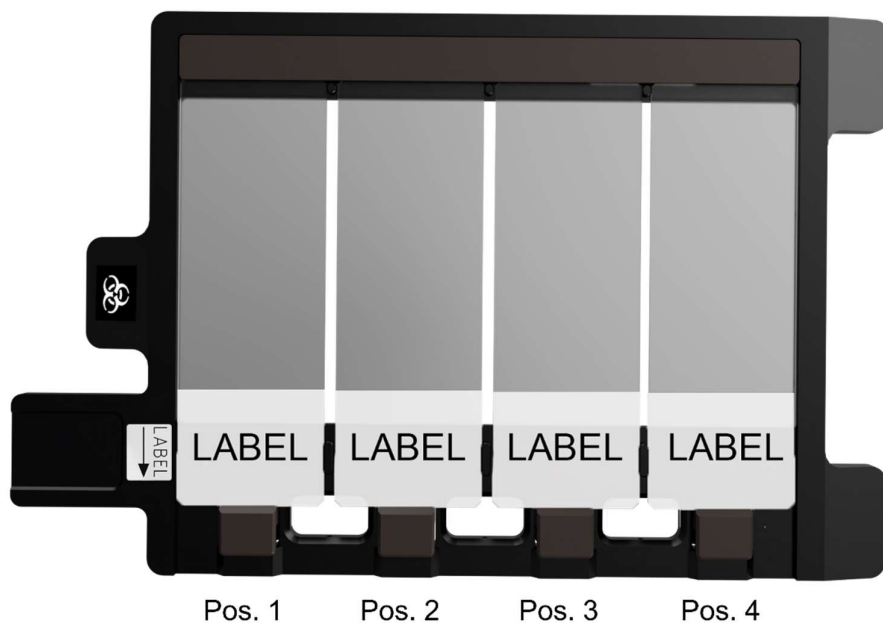

Figure 3-12 Overview of the standard positions of the slide holder.
The slide holder can hold up to four slides using its slide position springs. *Figure 3-12* illustrates the standard position numbering of slides on the SCIZYS S1 slide holder.
- SLOT x is the position in the slide holder into which the slide is inserted (*Figure 3-12*).